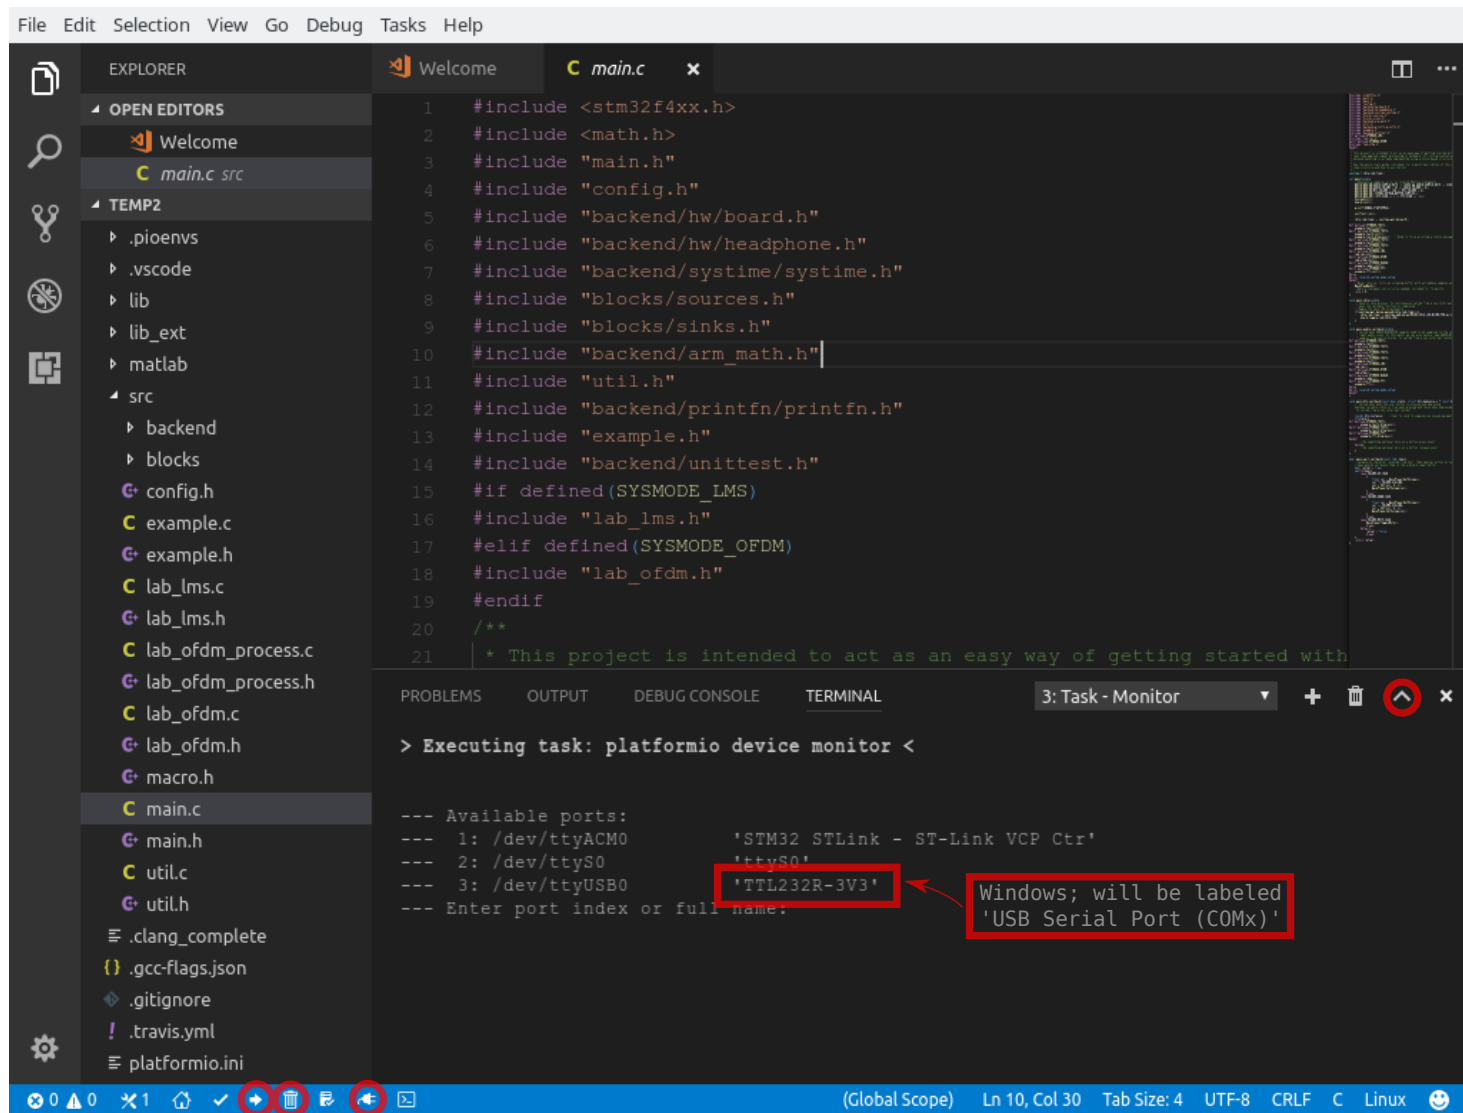

Figure 2: VSCode IDE.
2. The lower blue bar in VSCode should now contain the icons circled in Figure 2. If not, either PlatformIO has not been completely installed or you have not opened the correct directory.
5. Open the serial monitor, select the correct serial device (labeled `'TTL232R-3V3'` (Linux/Mac) or `'Usb Serial Port (COMx)'` (Windows)), and maximize the serial monitor window (the rightmost circled icon in Figure 2).
4. Use the upload button, lower leftmost in Figure 2, to compile, link, and upload the current source code to the DSP-kit.
5. Open/switch to and maximize the serial communication interface, lower and upper rightmost respectively in Figure 2, and interact with the DSP-kit as needed.